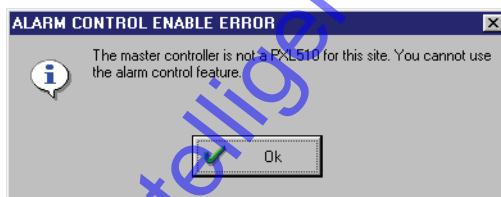

Figure 12-2: Alarm Control Enable Error
- Click in the check box beside the Alarm Control ON field. If a PXL-510 controller has not been detected as the master controller, an error message appears (see Figure 12-2).